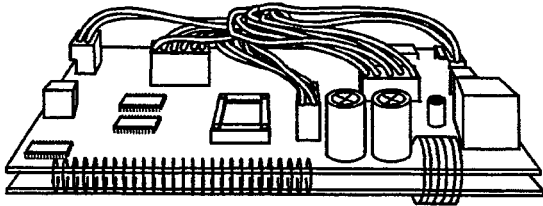

Figure 2-10
4. Observe the position of the harness connector plugged into the microprocessor board (Figure 2-10).